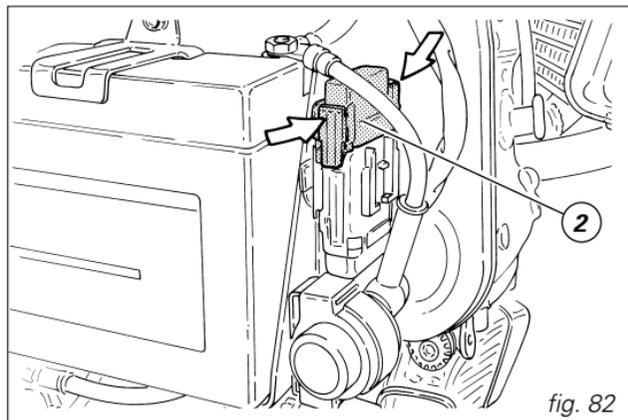

fig. 82
The fuse located on a side of the battery (fig. 82) protects the electronic regulator. Remove the fuse cap (2) to expose it.